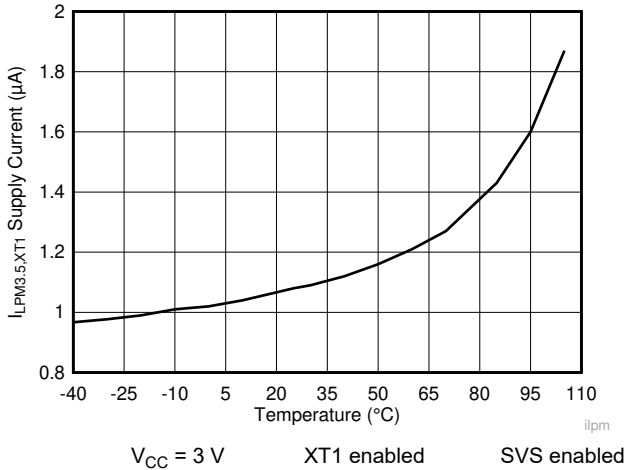

图 8-3. LPM3.5 Supply Current vs Temperature
| $I_{LPM3.5, XT1}$ | Low-power mode 3.5, 12.5-pF crystal, includes SVS (1) (2) (3) (also see <a href="#">Figure 8-3</a> ) | 3 V      | 0.60   |     | 0.66  |     | 0.96  |     | 1.41  | 2.95 | $\mu A$ |